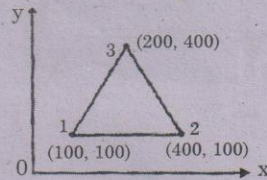

Fig. 2
14. (a) For a plane stress element shown in Fig.2, the nodal displacements  $((u_1, v_1), (u_2, v_2)$  and  $(u_3, v_3))$  are  $((2, 1), (1, 1.5)$  and  $(2.5, 0.5))$  respectively. Determine the element stress. Assume  $(E = 200 \text{ GN/m}^2, \mu = 0.3$  and  $t = 10 \text{ mm})$  all coordinates are in millimeters.